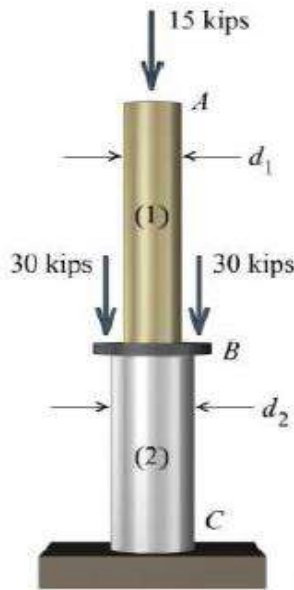

FIGURE P1.3/4
5. Two solid cylindrical rods (1) and (2) are joined together at flange B and loaded, as shown in Figure P1.3/4. The diameter of rod (1) is 1.75 in and the diameter of rod (2) is 2.50 in. Determine the normal stresses in rods (1) and (2).